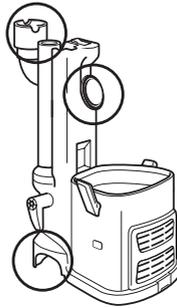

Fig. 28
- Remove the dust cup and wand and detach the canister from the motorized floor nozzle. Look in all 4 openings for any blockages. **(Fig. 28)**